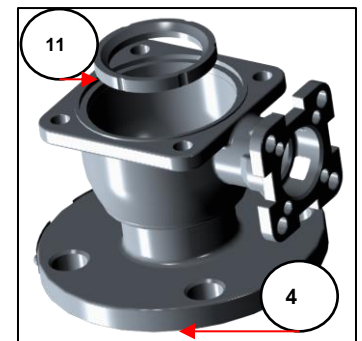

Figure 4-10
4.1.12 Carefully remove the ball seal (item 11) from the inside-bottom of the valve body (item 4). (Figure 4-10)